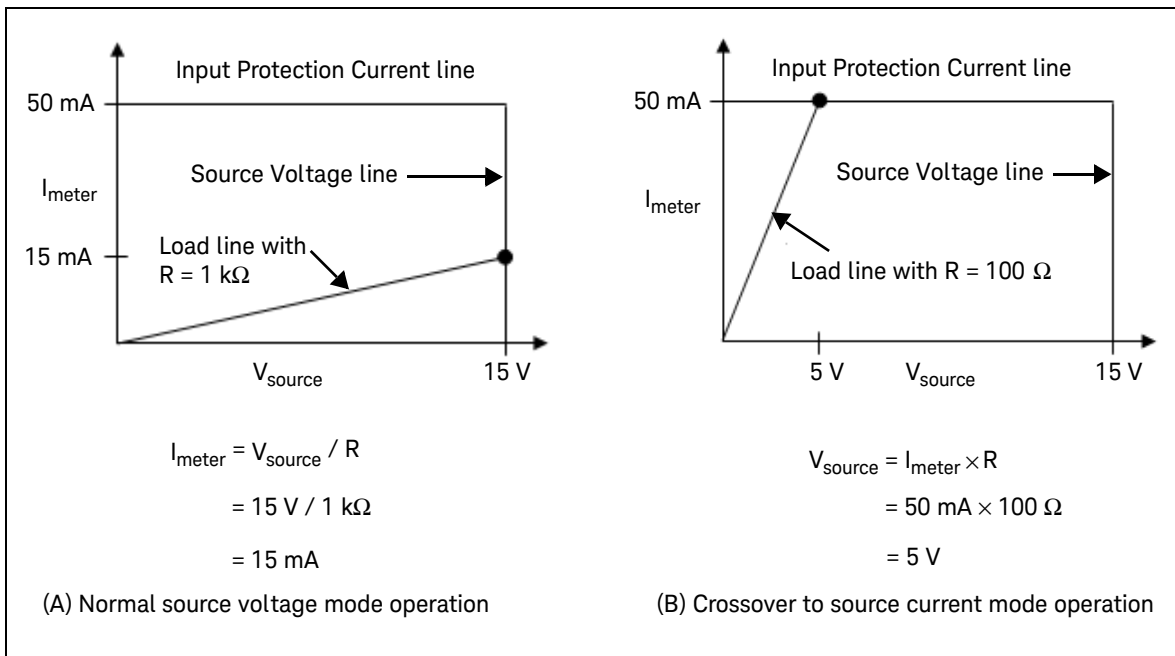

Figure 2-6 Source voltage operation
Figure 2-6 shows the operation with different resistive loads, which are $1\text{ k}\Omega$ and $100\ \Omega$ respectively. In these examples, the U2722A/U2723A is having a source voltage of 15 V and an input protection current of 50 mA .
In **Figure 2-6 (A)**, the U2722A/U2723A is having a source voltage of 15 V to a 1 k Ω load and it is measuring 15 mA. As long as the DUT load line intersects the source voltage line, it will be in source voltage mode and the voltage will maintain at 15 V. However in **Figure 2-6 (B)**, it shows that when the resistance of the load decreases to 100 Ω , the load line intersects the input protection current line. This forces the U2722A/U2723A to go into source current mode. Since the input protection current setting is set at 50 mA and the U2722A/U2723A cannot operate out of the boundary, the voltage changes to 5 V instead.